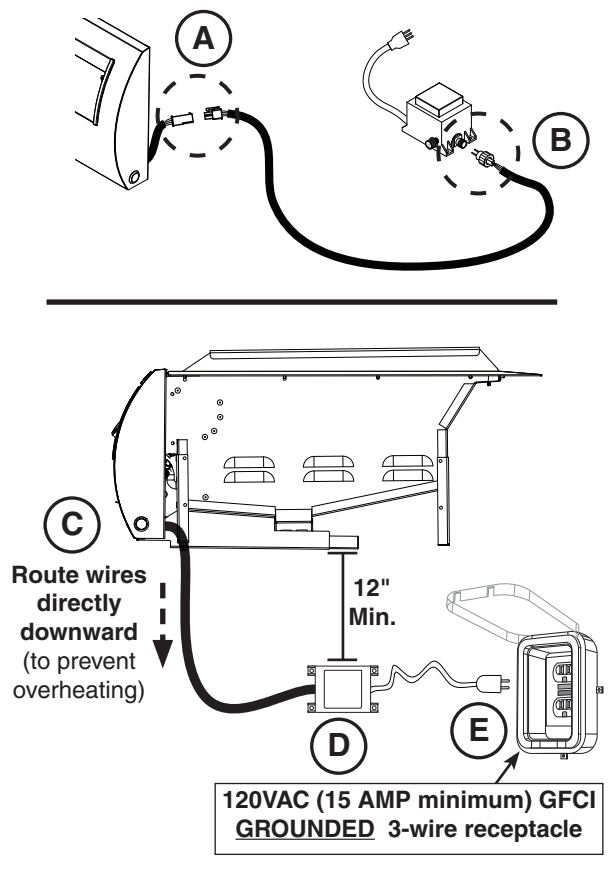

Fig. 25-1 Electrical installation
1. Locate the wire harness on the right side of the control panel. Cut the cable tie, and then connect it to the supplied wire harness extension. See Fig. 25-1, A.
2. Connect the wire harness extension to the power supply by inserting, then screwing on the cap (see Fig. 25-1, B).
3. Route the wire harness extension below the control panel and directly downward. This will prevent overheating. **DO NOT** route the wire extension below the griddle. See Fig. 25-1, C.
4. Mount the power supply to the inside of the enclosure using appropriate hardware for your enclosure. It **MUST** be located at least 12 inches below the bottom of the unit. See Fig. 25-1, D.
5. Connect the cord coming from the power supply to a **120VAC (15 AMP minimum) GFCI GROUNDED 3-wire receptacle** (see Fig. 25-1, E). The GFCI receptacle must be a **WEATHER-PROOF IN-USE COVERED RECEPTACLE**.